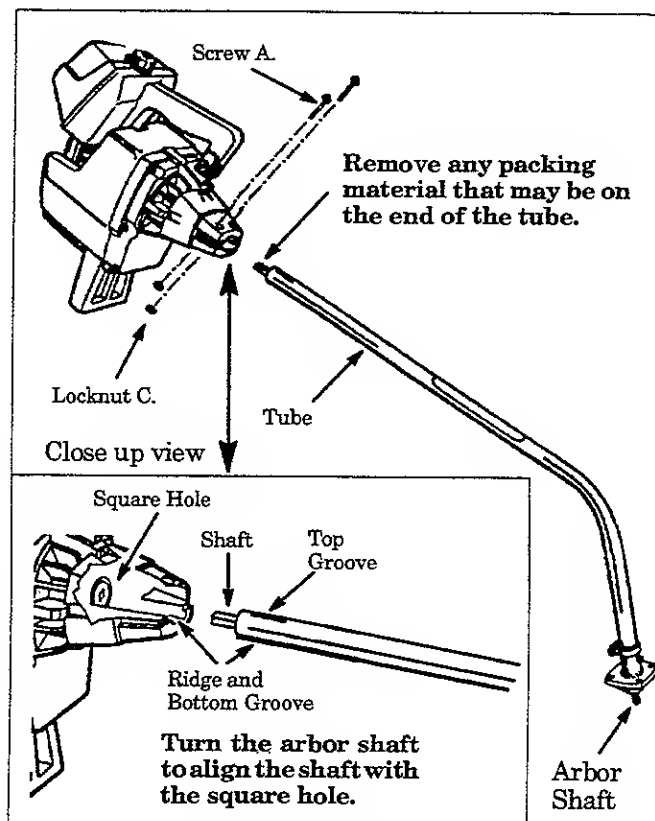

Figure 2
### 1. TUBE (Figure 2)
- Place the two screws "A." into the holes on the engine as shown in Figure 2.